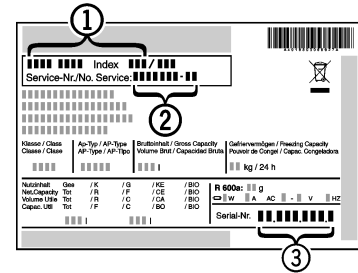

Fig. 7
- Read the appliance designation *Fig. 7 (1)*, service No. *Fig. 7 (2)* and serial No. *Fig. 7 (3)* off the type plate located inside the appliance on the left-hand side.
- Notify the customer service, specifying the fault, appliance designation *Fig. 7 (1)*, service No. *Fig. 7 (2)* and serial No. *Fig. 7 (3)*.